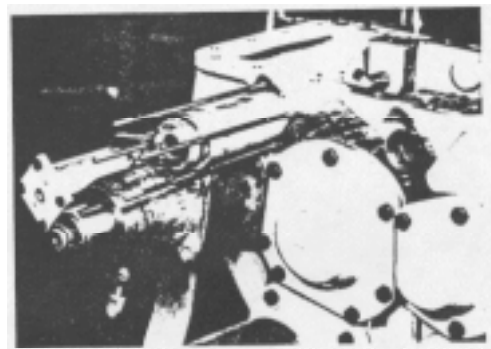

Fig. 36
9. If the transfer case is equipped with a PTO unit, the case must have a neutral position. Neutral is obtained through the use of a "piggy-back" cylinder mounted on the high-neutral cylinder (see Page PM7). This "piggy-back" cylinder, when actuated by properly connected air valves, provides this neutral position. The "piggy-back" cylinder consists of an adaptor (Item 41) into the grooves of which are installed oiled o-rings the adaptor may be put either end first (it is symmetrical) into the end of the high-neutral shift cylinder tube (See Fig. 36). The air inlet connection should point in the same direction as when removed. The "piggy-back" shift shaft piston assembly (with nylon stop ring over the end of the shaft) should now be inserted into the "piggy-back" adaptor. Slip the "piggy-back" shift cylinder tube (Item 43 which is 31/e" long) over this piston.